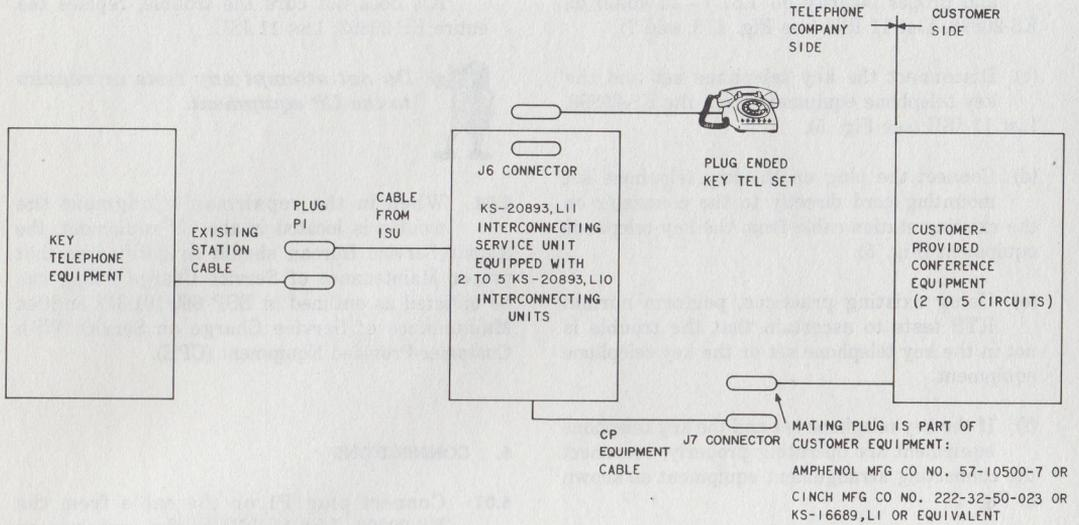

Fig. 5—Block Diagram—Voice Connecting Arrangement CEZ (With Key Telephone Set)
3.01 Locate the voice connecting arrangement near the CP conferencing device and associated key telephone set, typically in the knee well of the desk on which the key telephone set and the CP equipment are located. The station cable on the ISU is approximately six feet long; therefore, the distance between the ISU and the connector on the existing station cable from the KTS equipment (Fig. 5) must not exceed 6 feet. Provide adequate room or cable slack for access to the ISU for testing and maintenance. When it is not possible to locate the ISU within 6 feet of the station cable connector, B25A connector cables may be used to extend length of P1 cable.
- (c) Disconnect the key telephone set and the key telephone equipment from the KS-20893, List 11 ISU (see Fig. 5).
- (d) Connect the plug on the key telephone set mounting cord directly to the connector on the existing station cable from the key telephone equipment (Fig. 5).
- (f) If the key telephone set and the key telephone equipment are operating properly, reconnect the connecting arrangement equipment as shown in Fig. 5.